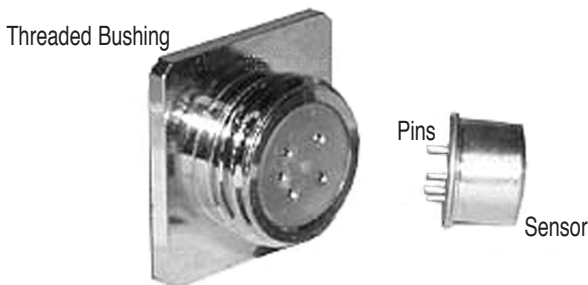

Fig. 4
2. Hold the unit with the front end facing you and note the sensor connection inside the threaded bushing on the end of the unit. There are five (5) holes corresponding to the five (5) pins on the sensor – three (3) on the left and two (2) on the right (refer to Fig. 4).